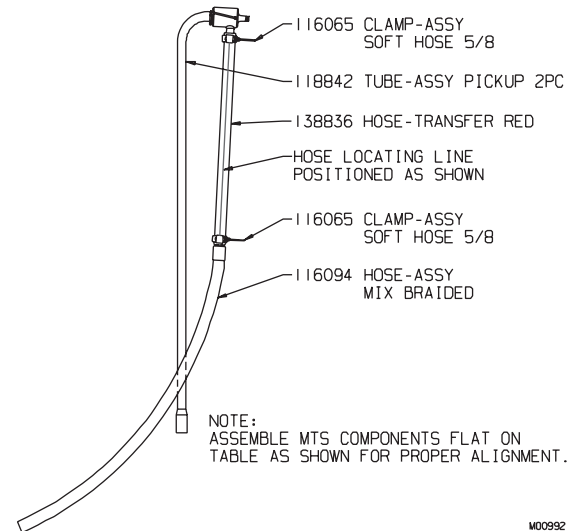

Figure 8-6 Attaching Braided Hose
13. Slide another clamp over the mix transfer hose and connect to the barbed end of the braided hose. Tighten the clamp. Finger tighten only! The thumb screw must lay horizontal as shown in figure 8-6.